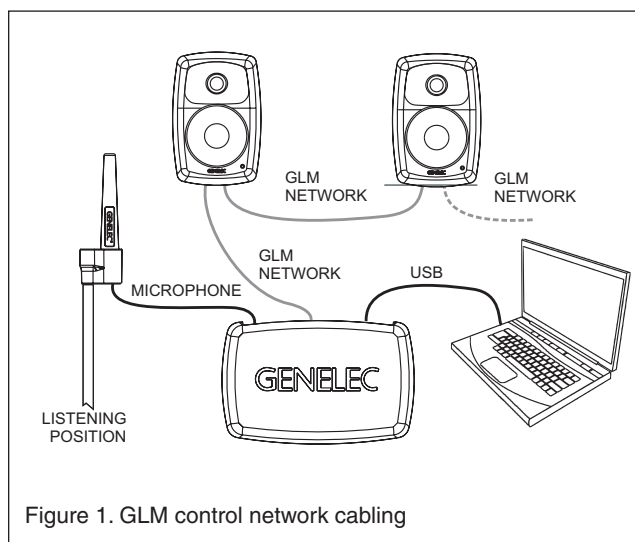

Figure 1. GLM control network cabling
1. Run a CAT5 (RJ45) cable from the monitor control network to the next monitor (see Figure 1).